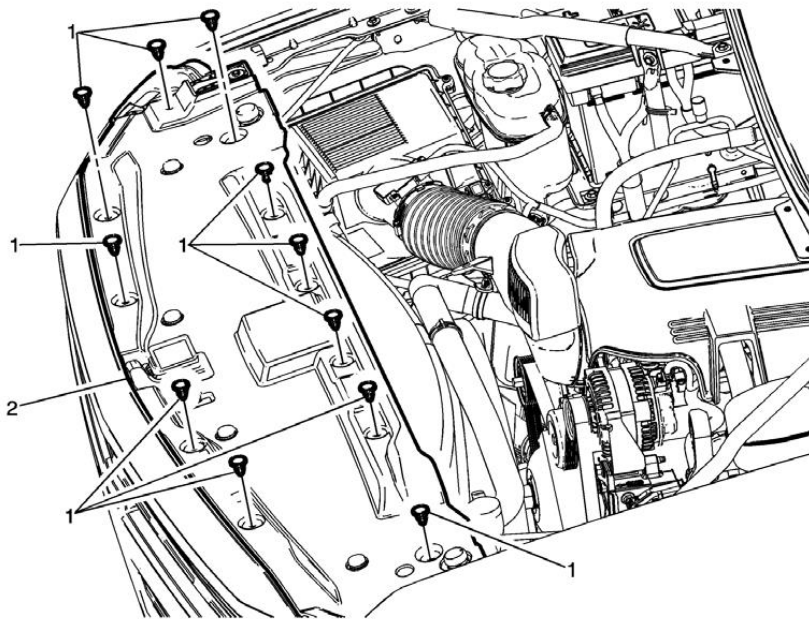

Figure 1
- A. Open hood and locate push pins on radiator cover. Using a panel clip removal tool, pull the head of the push pins up, remove push pin and lift radiator cover off. This will allow access to top grille bolts. (Ref. Figure 1).